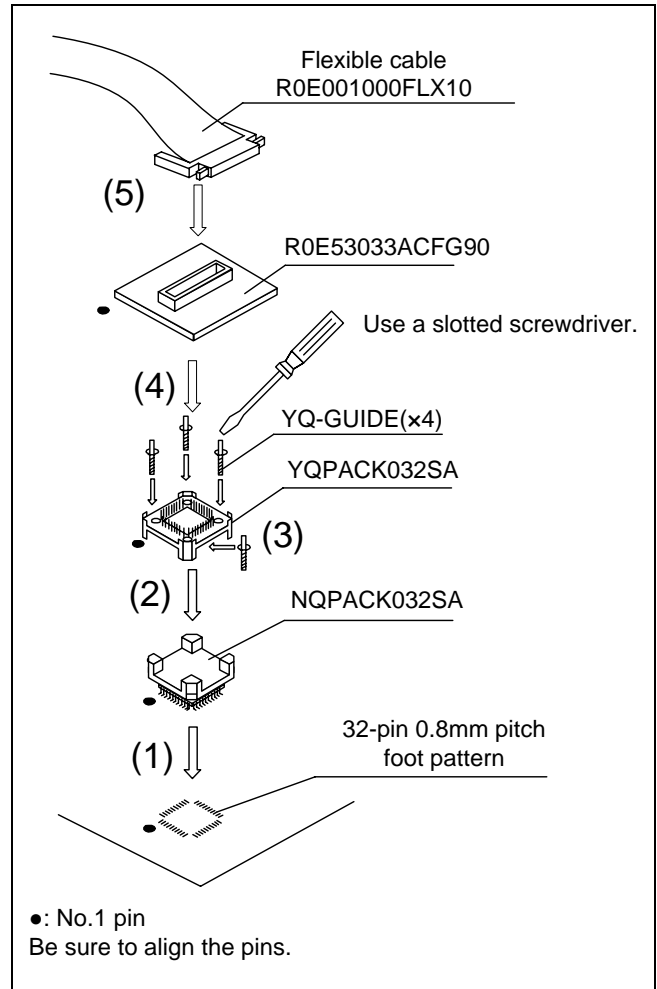

Figure 3 Connection procedure of the R0E53033ACFG90
5. Connection Procedure (See Figure 3)